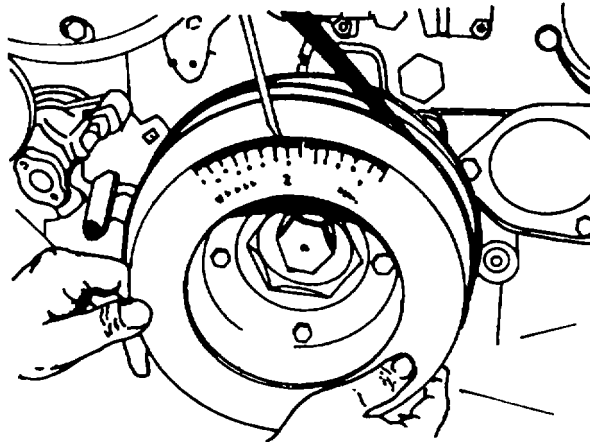

Figure 4-39. Zeroing Magnetic Protractor
2. Mount magnetic protractor so zero coincides with TDC (figure 4-39).